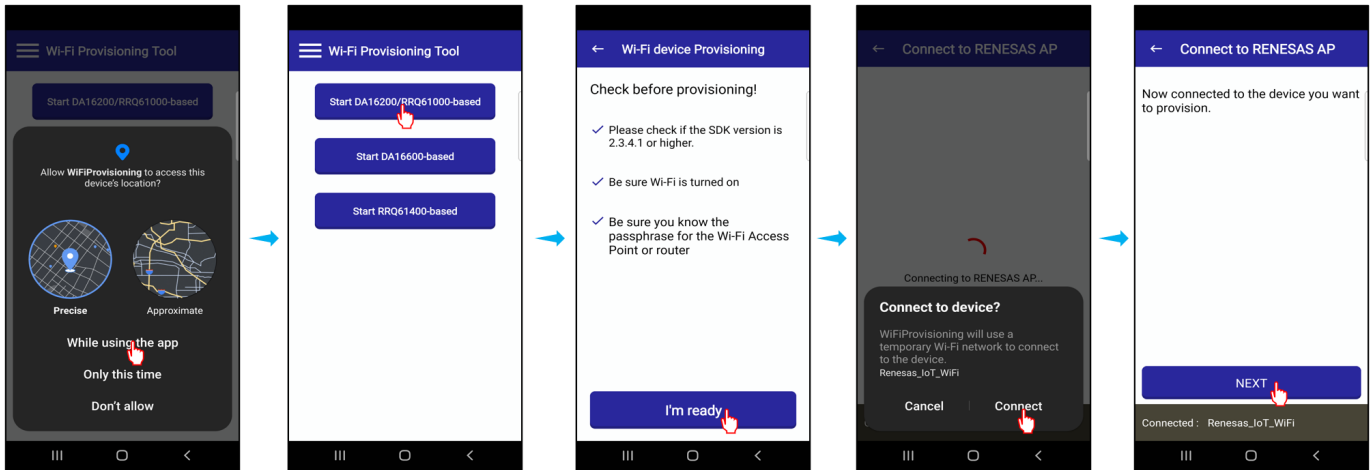

Figure 6. Renesas Wi-Fi provisioning application steps
3. Download the Renesas Wi-Fi Provisioning application from the Google Play Store or the Apple App Store to connect RA6W1 to Access Point, for Android, see Figure 6.